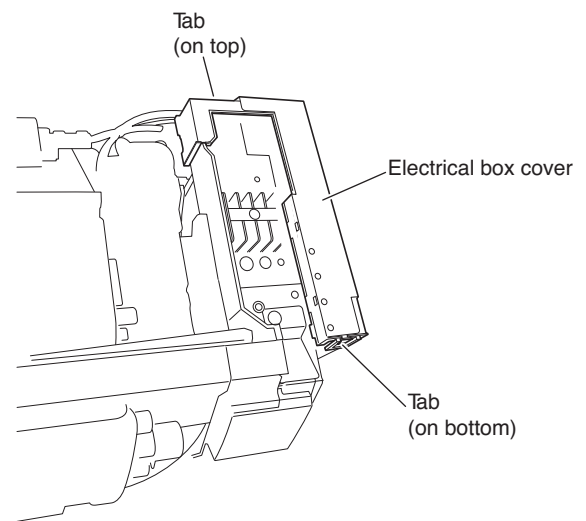

Fig. 1
- (1) Remove the air intake grille.
- For the details of step (1), refer to the Installation Instructions that were provided with the outdoor unit.
- (2) Disengage the tab on the bottom of the electrical box cover, then lift up the cover and disengage the tab on the top of the cover. Then remove the electrical box cover. (Fig. 1)